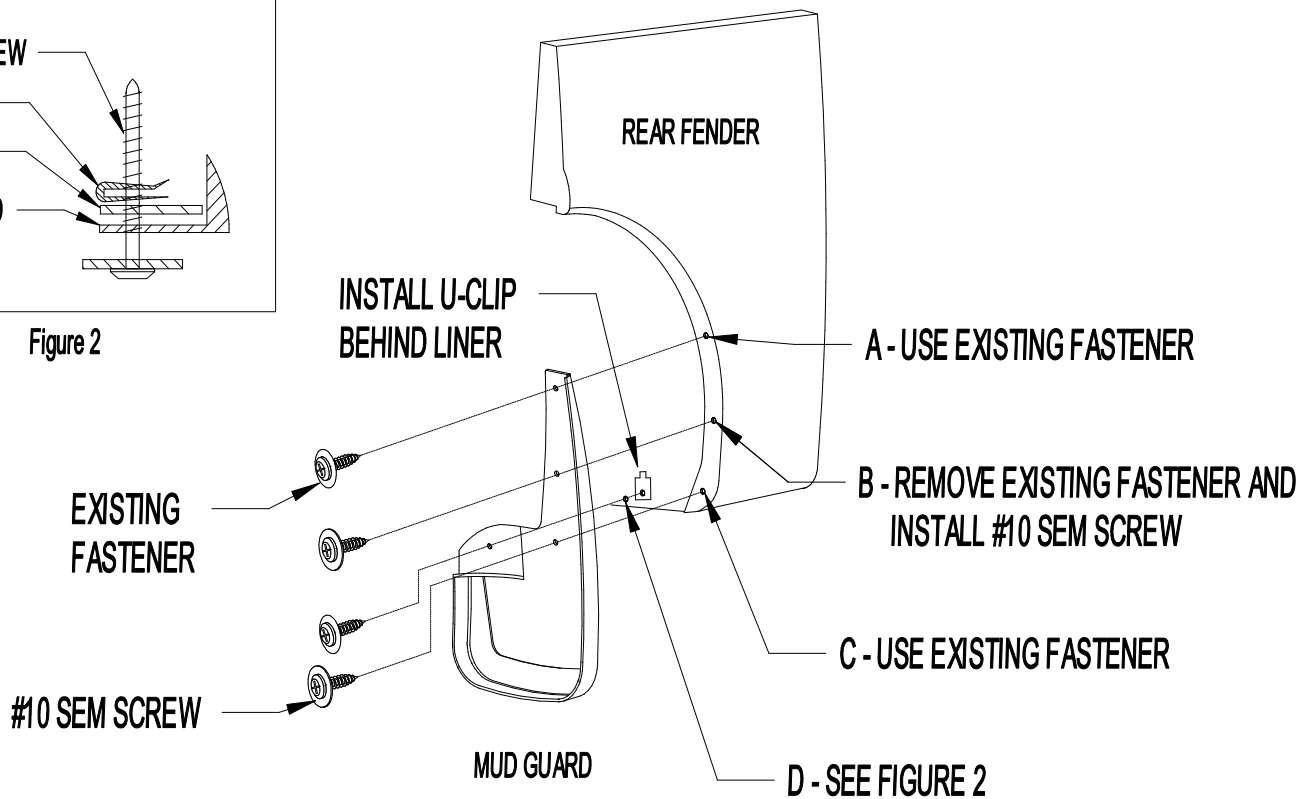

Figure 1
2. Remove existing fasteners from locations A, B, and C (Figure 1).